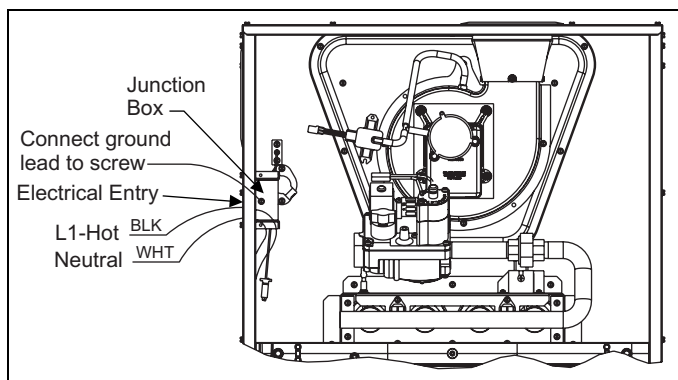

FIGURE 19: Electrical Wiring
2. Remove the screws retaining the wiring box cover. Route the power wiring through the opening in the unit into the junction box with a conduit connector or other proper connection. In the junction box there will be 3 wires, a Black Wire, a White Wire. Connect the power supply as shown on the unit-wiring label on the inside of the blower compartment door or the wiring schematic in this section. The black furnace lead must be connected to the L1 (hot) wire from the power supply. The white furnace screw must be connected to neutral. Connect the power supply ground to the green screw (equipment ground) An alternate wiring method is to use a field provided 2" (5.1 cm) x 4" (10.2 cm) box and cover on the outside of the furnace. Route the furnace leads into the box using a protective bushing where the wires pass through the furnace panel. After making the wiring connections replace the wiring box cover and screws. Refer to Figure 19, "Electrical Wiring".
3. The furnace's control system requires correct polarity of the power supply and a proper ground connection. Refer to Figure 19, "Electrical Wiring"